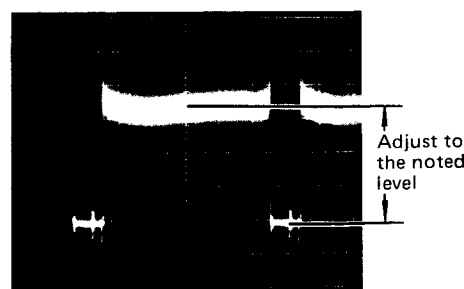

Fig. 5-6-5
- o Set the High Gain Selection Switch on the side of the camera to +12 dB position and adjust VR13 (G BLANKING OFFSET) on Process VIC4 board so that the pedestal level at TP9 (G OUT) is same as the noted level. (Fig. 5-6-5)